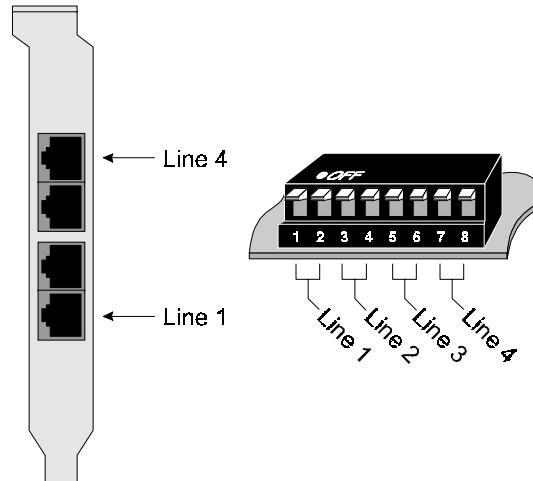

Figure 3. DialFire BRI connectors and line-terminating DIP switch
The terminating switches must be changed in pairs (one for transmit and one for receive), as shown in figure 3. The figure shows the switches set for no termination (OFF position). To terminate the lines, place the switches in the ON position (down, or toward the board).
10. Connect the telephone line(s) to the adapter (see figure 3 on page 28 for connector locations).